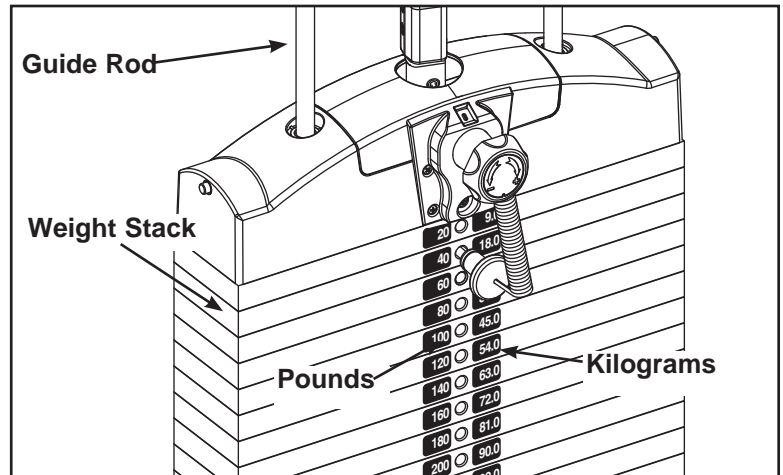

Figure 4
- Carefully remove front side, leaving decals adhering to weight plates. See Figure 4.